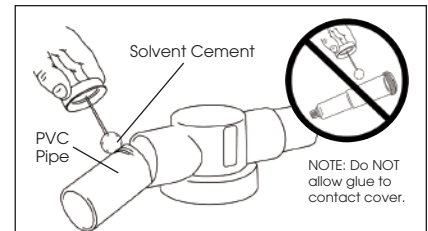

Fig 1. Installation for PVC Pipe.
1. When installing on PVC pipe, only use approved solvent cement for gluing PVC connections. Follow instructions outlined on the glue container. (See Fig 1.)